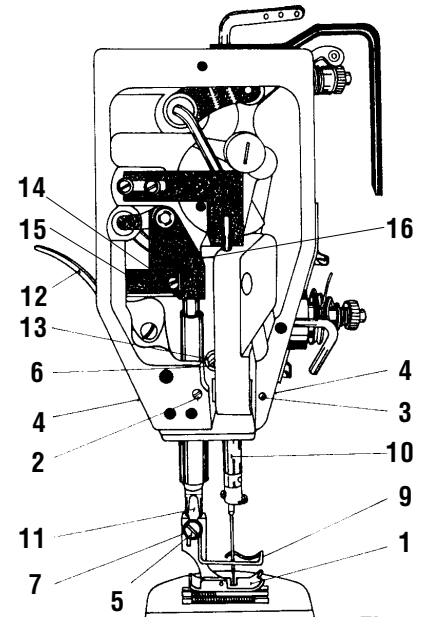

Fig. 5
8. Presser foot replacement (Fig. 5)
9. Presser foot lifting setting (Fig. 5, 6, 8)
10. Setting of the needle bar height (Fig. 5)
15. Setting the needle punch into the middle of the needle groove in the throat plate in longitudinal direction (Fig. 5)